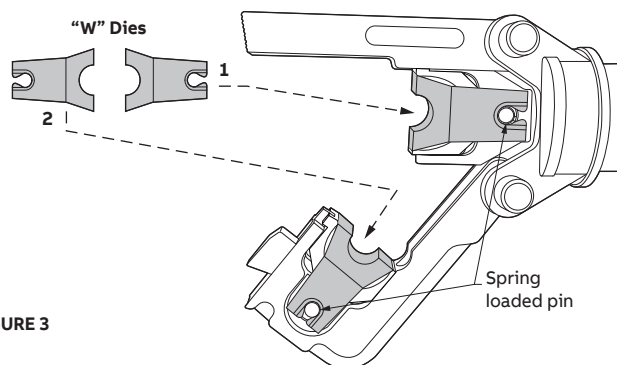

FIGURE 3
5. The tool also accepts Burndy "W" type dies. Use of Burndy "W" dies requires that the die set DBL be installed first according to step 4. The "W" dies are then installed over the DBL dies and are secured in place by the spring loaded pins (Figure 3).